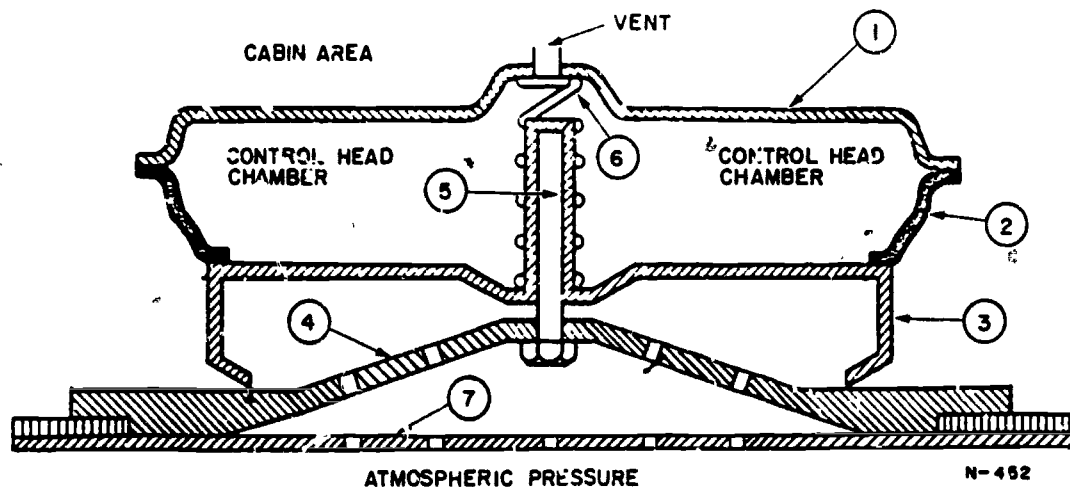

Figure 3.
The regulator assembly is installed INSIDE the cabin. The outflow valve covers an opening in the aircraft skin. When the outflow valve is open, cabin air can flow out to the atmosphere. Refer to figure 3 as we talk about the outflow valve.
In figure 3 the round outflow valve has been cut in half from top to bottom and you are looking into the open side of one half. Number one (1) is part of the valve housing. It bolts to the regulator (not shown) and does not move. Number two (2) is a rubberized diaphragm that allows the valve to move. Number three (3) is the valve (shown closed) and it moves up and down. Number four (4) is the lower part of the valve housing that bolts to the inside of the aircraft skin. Number five (5) is a guide bolt on which the valve slides up and down. Number six (6) is a spring which pushes down on the valve with about 100 pounds of force to help keep the valve on seat. Number seven (7) is the aircraft skin that has slits cut so that cabin pressure may vent to the atmosphere.